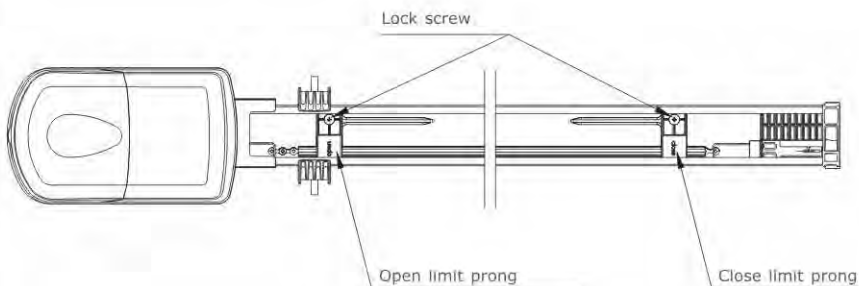

Fig.11
- Locate the Close Direction Limit Prong within the Drive Rail - nearest to front wall of garage (Fig.11)
- Locate the Open Direction Limit Prong within the Drive Rail – nearest to Control Box. (Fig.11)